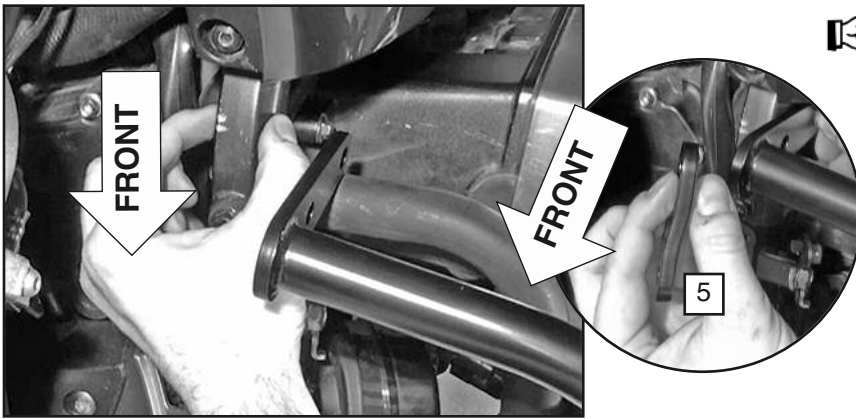

Figure 15
The frame of the motorcycle is thicker at the front. For this reason the Backing Plate (5) has an offset. Position the offset to front and inside of the motorcycle as shown in the detail of **Figure 15**.
6. Install the Backing Plate at the Rear Mount Point using the fasteners as shown in **Diagram C**. Leave Loose. Do not fully tighten at this time. **(6mm Hex Wrench and 13mm Box Wrench) Diagram C, Figure 15 and 16**
Tape the Cover above the "P" clamp to protect from scratches. **(Tape) Figure 15**